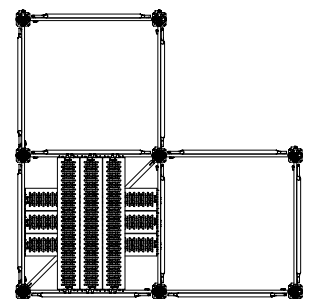

Fig. A1.06
- Connecting the scaffold assembly with other system components to form stable units. (Fig. A1.06)